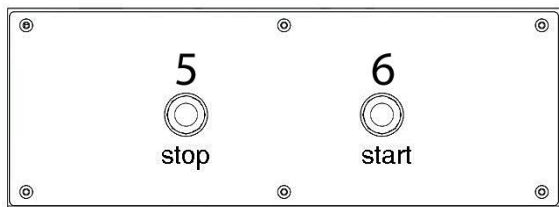
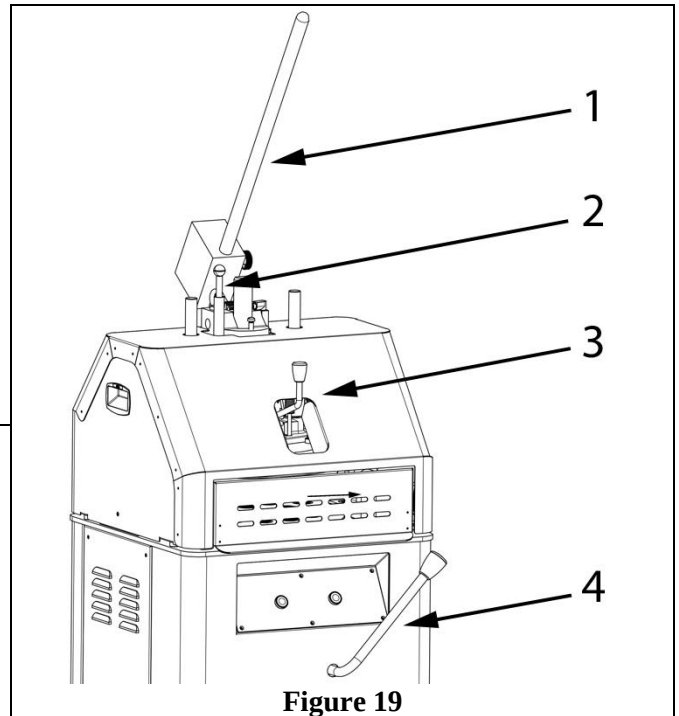

Figure 20
Figure 19
The buttons and levers of the control panel are on the front of the machine (Figure 19 and Figure 20), while the graduated rod is on the top:
1. press the START button (Figure 20, pos.5) to enable the machine;
2. adjust the graduated rod (Figure 19, pos.2) to determine the rounding height of the chambers depending on the weight of the dough.
7. Lower and keep pressed the **pressure lever** (Figure 19, pos.1) to press the dough;
8. push the **cutting lever** (Figure 19, pos.3) to the right to divide the dough;
9. slowly lower the **rounding lever** (Figure 19, pos.4) and keep it pressed throughout the movement. To stop the cycle, lift it slowly. The rounding time depends on the type of dough and the operator's experience;
10. after lifting the **pressure lever** (Figure 19, pos.4) open the mobile casing and remove the rounding plate;
To stop the machine, press the normal stop button (Figure 20 pos.5) or lift the levers of Figure 19 pos.3 and 4.
Slightly lower the graduated rod (Figure 19, pos.2).
Increase the forming time using the lever (Figure 19, pos.4).
Lift the weight control graduated rod (Figure 19, pos.2).
The balls of dough were formed with too much force; decrease the forming time using the lever (Figure 19, pos.4).
Close the rounding machine more slowly, i.e. return the rounding lever more slowly (Figure 19, pos.2).